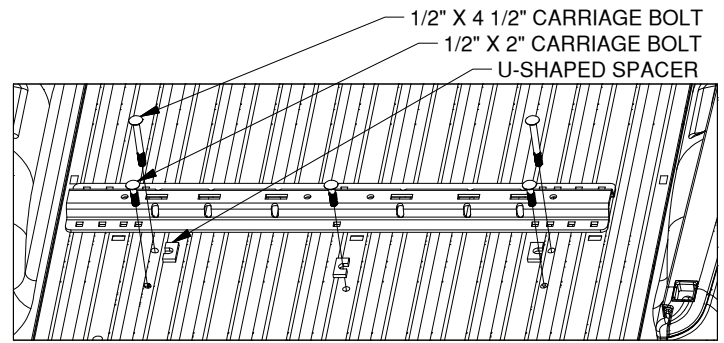

Figure B1: View looking into truck bed from rear of truck.
1. **The rear mounting rail.** Re-position the rear mounting rail over the drilled 9/16" holes in the bed. Install two 1/2" X 4 1/2" carriage bolts into the two forward drilled positions (holes over the crossmember) and install three 1/2" X 2" Carriage bolts through the three rear drilled positions, as shown in figure B1. Place U-shaped washers between the bed and the mounting rail. Two spacers (as near as possible) by the 4-1/2" carriage bolts and one spacer around middle carriage bolt.